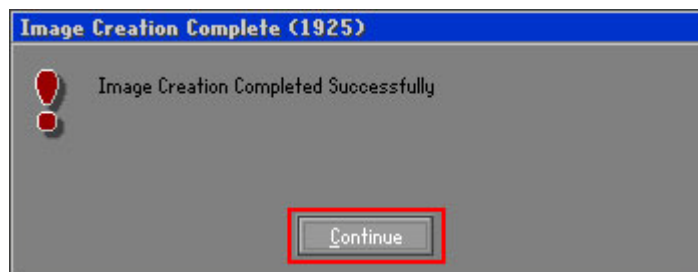

Figure B-20: Image Creation Complete
Step 11: When the image creation completes, a screen prompts as shown in **Figure B-20**.